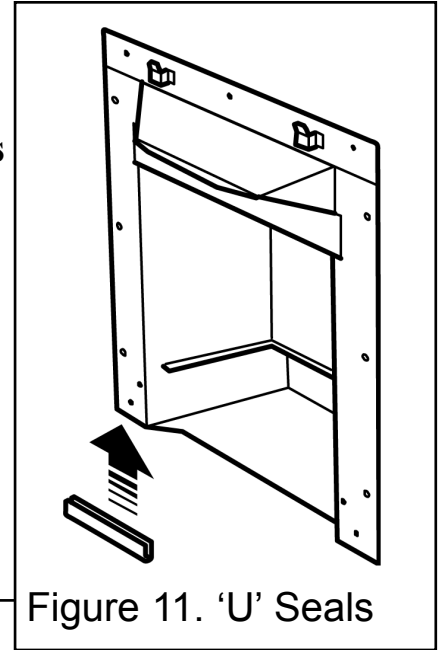

Figure 11. 'U' Seals
2. Fit the two "U" section seals to the bottom edges of the convection box side flanges. See figure 11.